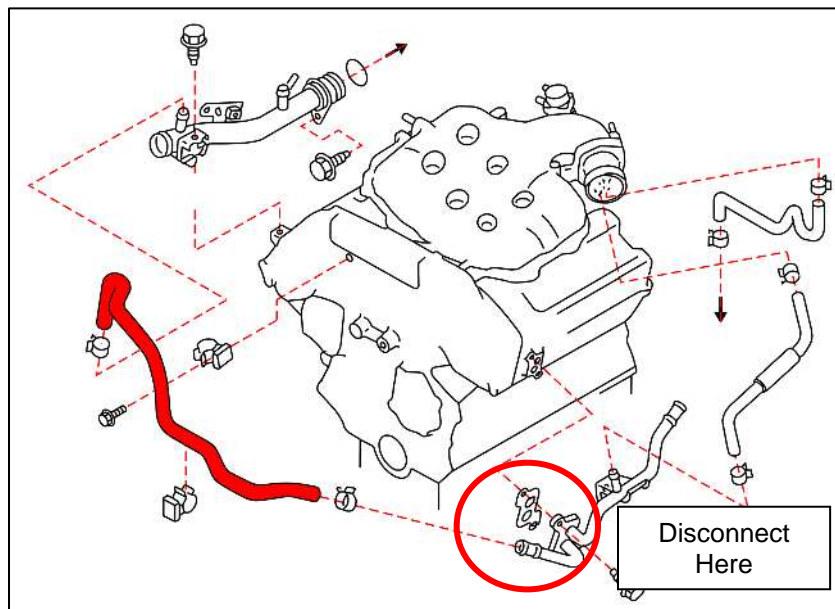

Figure 27
18. Disconnect the Coolant Crossover Pipe on the front of the engine from the Driver Side Hard Pipe. More Coolant will most likely pour out, prepare a rag or bucket. *Figure 27.*